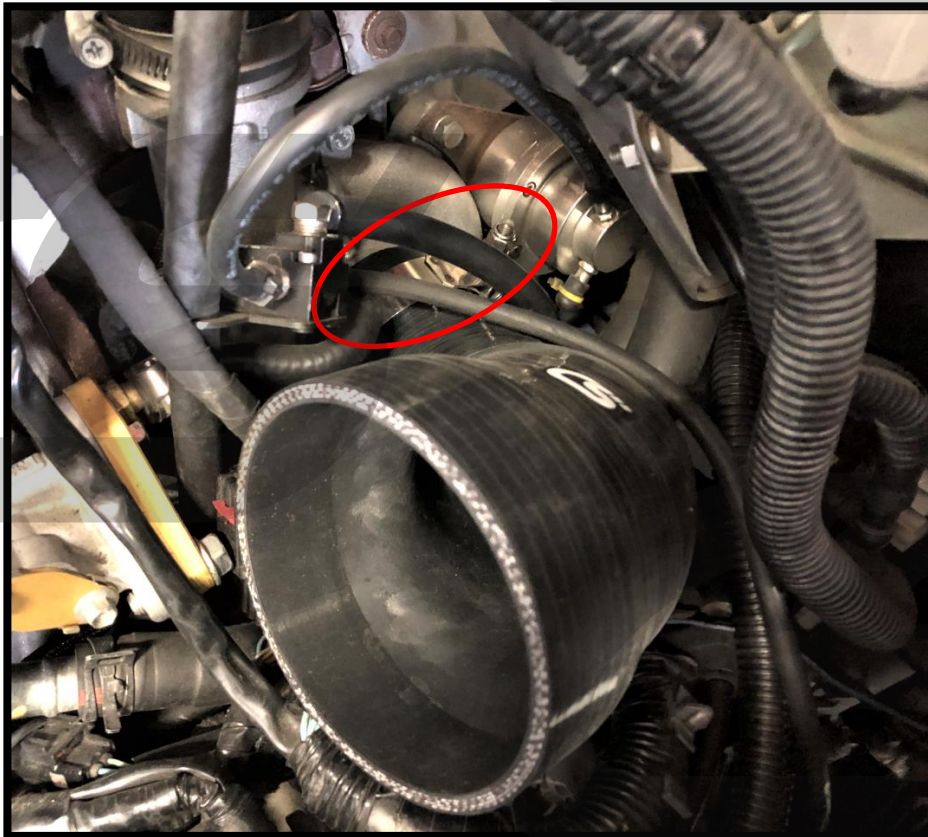

Figure 6a
- b. Install the supplied CS silicone onto the inlet of the turbocharger. Ensure the clamp is positioned as shown in **Figure 6a** for easiest access. Leave clamp loose for now.